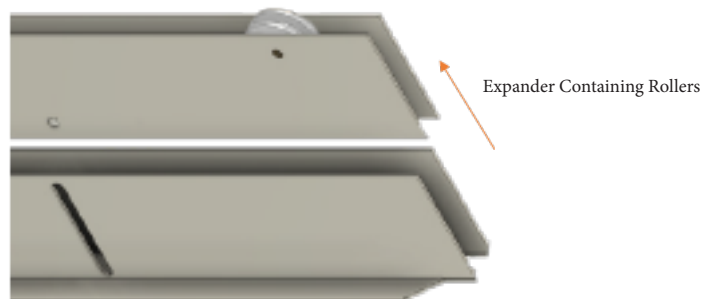
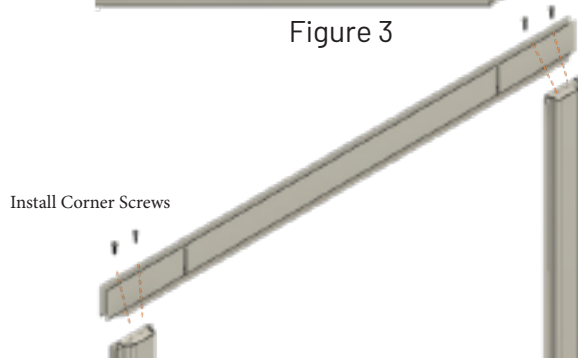

Figure 3
Figure 4
**STEP 2.....**Remove expanders that are taped inside the short top & bottom rail pieces (FIG. 3) and fasten top/bottom rails to long side pieces (FIG. 4).
2. Place the top/bottom rail against the long side piece which contains the corners in both ends (FIG. 4). Make sure to orient both pieces as shown, aligning the screw holes in the top/bottom piece with the "dimples" in the corner. Using a Power Drill with a 2.5" #2 driver, install (2) No. 8 x 3/4" screws (the LONGER screws provided), through the holes in the top/bottom rails and into the corner dimples in the long piece. Then attach the other end of the top/bottom rail to this long piece similarly. Now attach the other top/bottom rail to the remaining long sides as before.